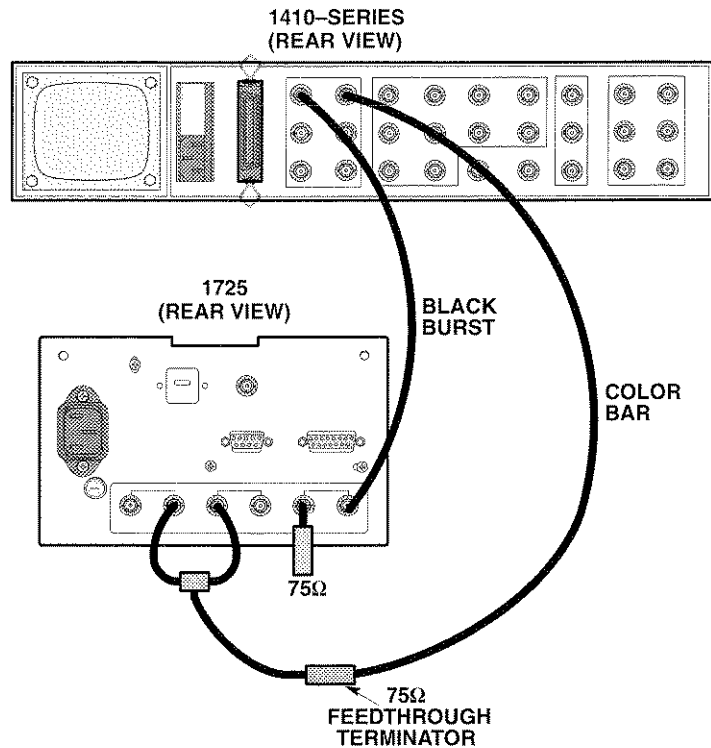

Figure 5-16: Equipment connections for CH-A/CH-B phase match adjustment
- a. Connect the PAL Television Signal Generator color bar output through a 75Ω feedthrough termination and dual-input connector to both the CH-A and CH-B inputs. Connect the PAL Black Burst signal to the EXT REF and terminate the remaining side of the loopthrough in 75Ω . See Figure 5-16.